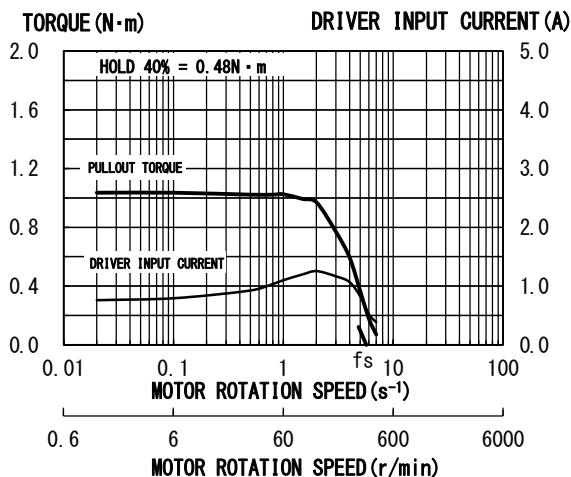

Fig. 6
|         | SM2563C10U41 (11)    | 1.8        | 1.0         | 7                      | Fig. 6       |